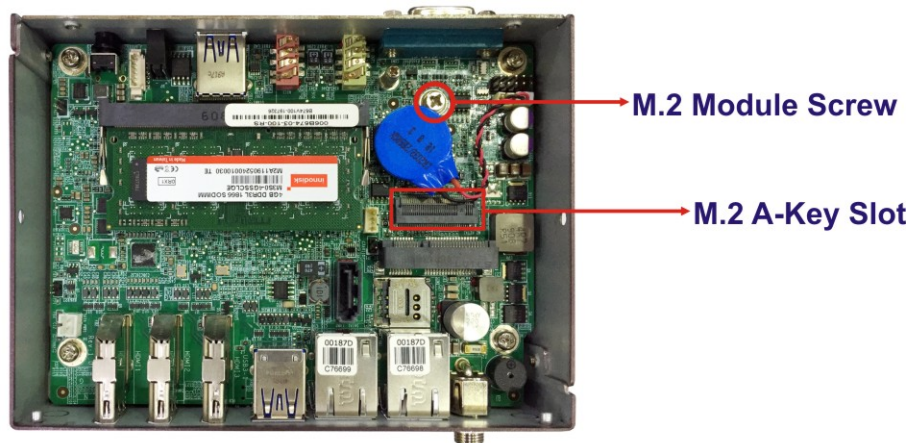

Figure 3-5: M.2 A-key Slot Location
Step 3: Locate the M.2 A-key slot on the motherboard (Figure 3-5).